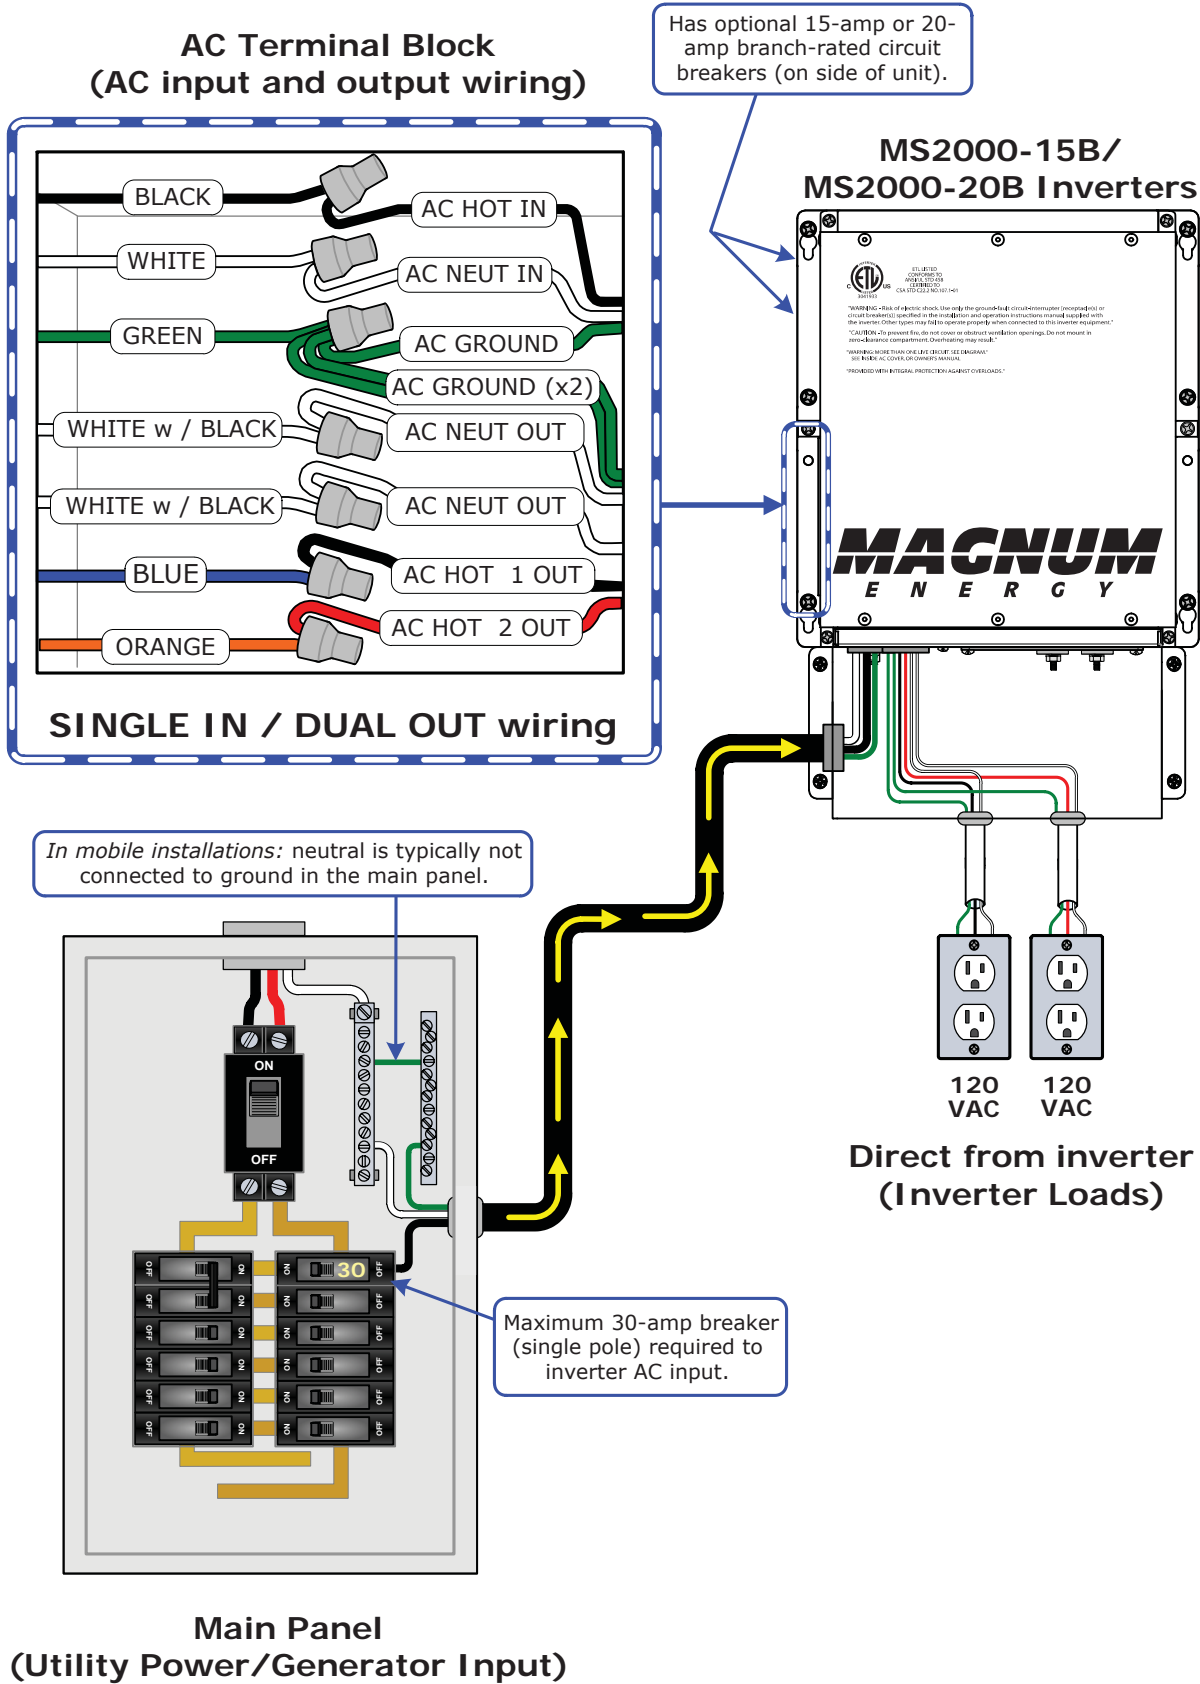

Figure 2-15, AC Wiring for MS2000-15B/-20B Models
**Info:** Depending on the AC wiring configuration, you may need to connect a wire to the inverter's HOT 2 OUT (orange) wire (see Figure 2-15).
3. Connect the inverter's NEUTRAL OUT (white w/black) wire to the sub-panel's neutral busbar (or to the neutral connections on the outlets, if using the output breaker versions - see Figure 2-15) using field wiring leads.